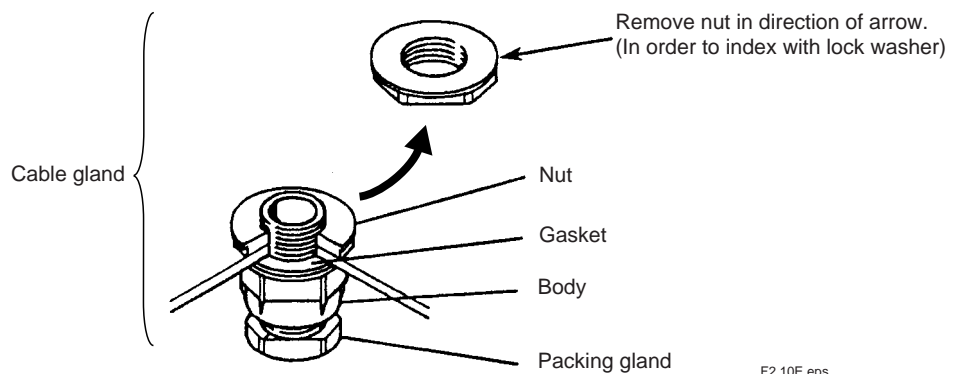

Fig 2.10
(3) Remove the nut from the dedicated cable gland (see Fig. 2.10), which is used for locking the sensor cable.
- (4) Pass the cable through the cable gland except the removed nut.
- (5) Pass the cable through the right side of the wiringhole.
- (6) Pass the cable through the removed nut.
- (7) Check each tag on the terminal of the cable, and connect each cable terminal to the corresponding terminal in the box.
- (8) Loosen the packing gland (shown in Fig.. 2.10) beforehand.
- (9) Attach the cable gland to the wiring hole by screwing up securely the body.
- (10) Screw up the packing gland so that humidity can not enter.